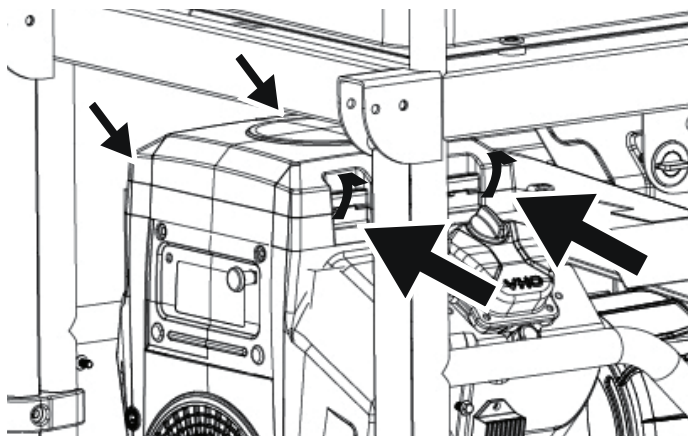

Figure 17 - Unclip air filter cover
3. Locate the air filter cover on top of the engine. Unclip the 4 clips on the sides of the air filter cover (Figure 17).